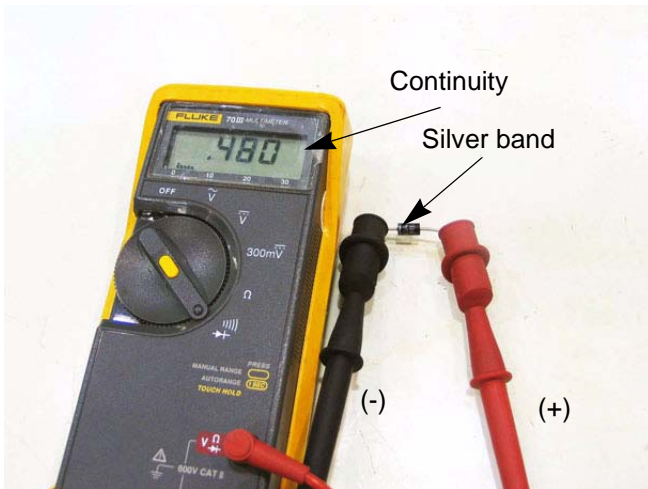

Figure 7.48
- 12e. There should be continuity. See Figure 7.48.